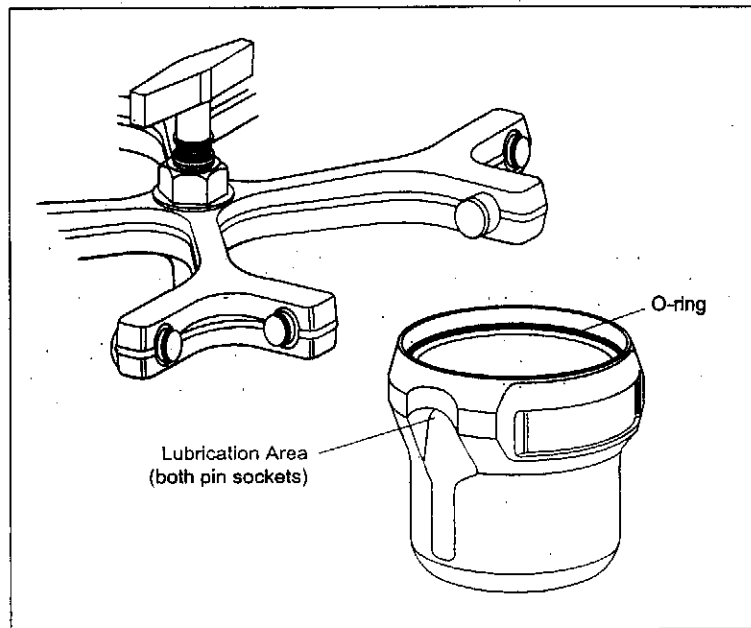

Figure 5. Lubricating Pivot Pin/Bucket Contact Areas
- Approximately every 400 runs, and after cleaning and/or auto-claving, wipe the rotor pins and pin sockets (see Figure 5) with a paper towel; then coat the sockets with Paint On Graphite Lubricant (977212). Allow the lubricant to dry for at least 5 minutes before installing the rotor in a centrifuge.